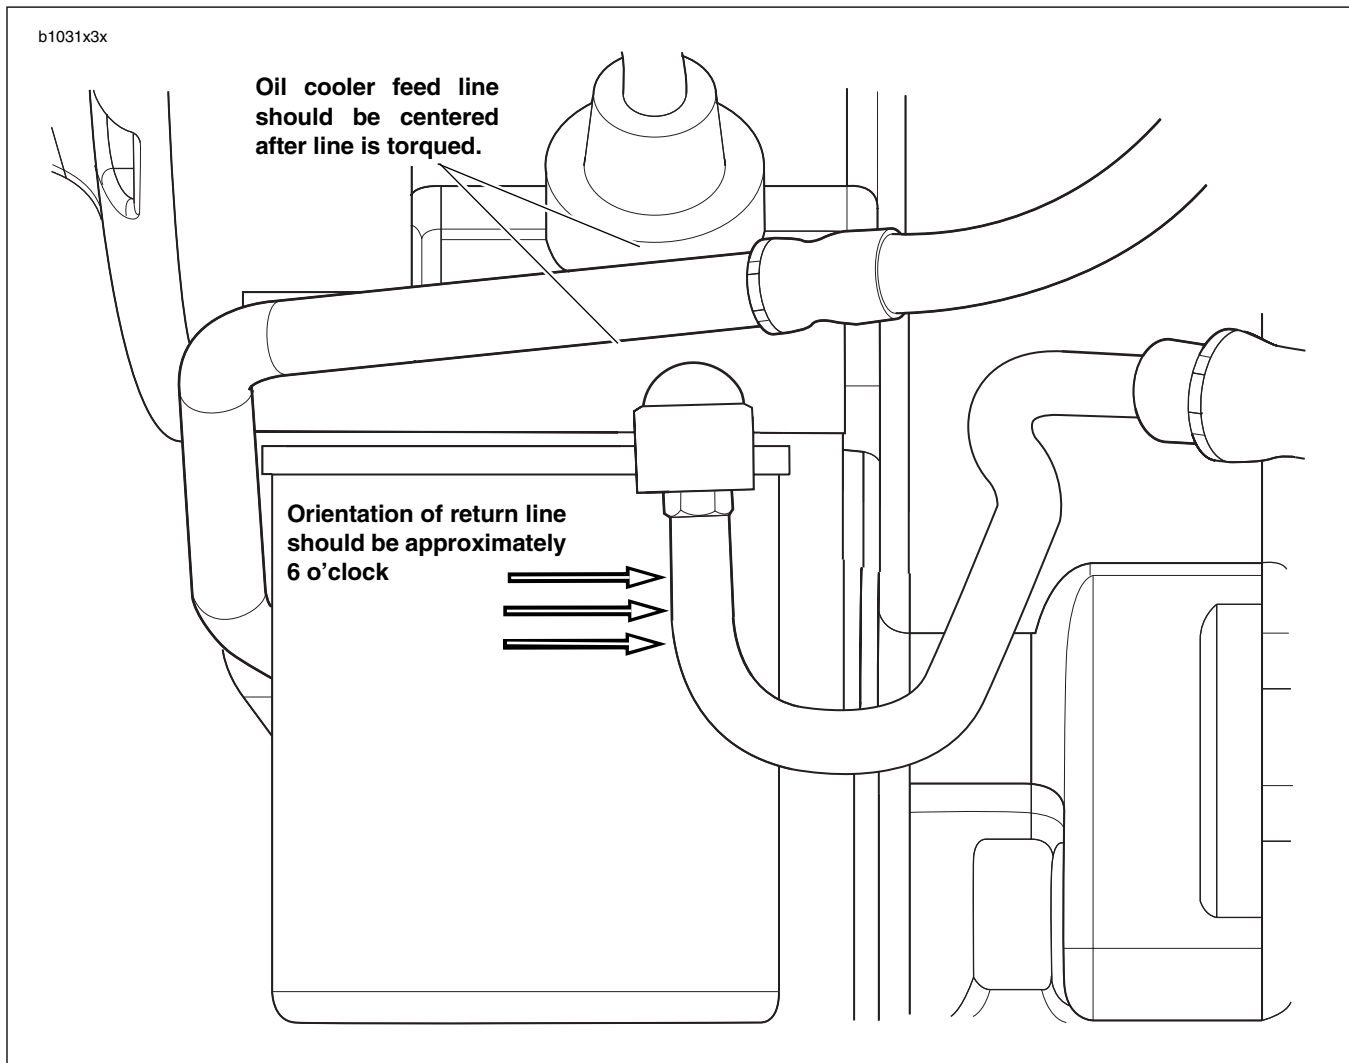

Figure 3-50. Oil Cooler Feed and Return Oil Lines Location and Orientation
30. See Figure 3-50. Install oil cooler oil feed line first at oil pump and tighten to 22-24 ft-lbs (29.8-32.5 Nm). Lightly coat the threads of the oil cooler fitting with clean H-D 20W50 engine oil. Wipe off any excess oil. Tighten feed oil line to 19-21 ft-lbs (25.8-28.5 Nm) at oil cooler making sure to center the oil line between the oil sending switch and the return oil line fitting on the crankcase.
See Figure 3-50. The orientation of the oil cooler return oil line where it enters the crankcase should be at approximately 6 o'clock to allow for proper alignment and clearance of other components on the vehicle.